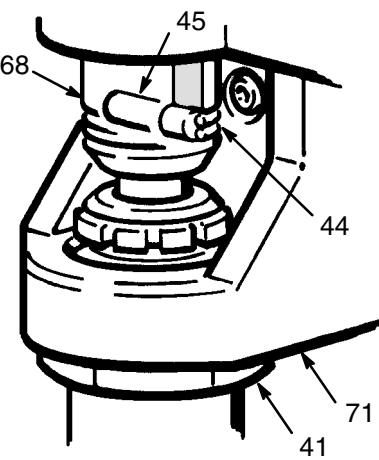

Fig 28-1
1. Remove the front cover (59).
2. Unscrew the swivel union (76) from the pump, holding a wrench on the pump intake valve to keep the pump from loosening.
3. Disconnect the pump outlet hose (72) from the displacement pump outlet nipple (40).
4. Use a screwdriver to push up the retaining spring (44). Push the pin (45) out. See Fig 28-1.